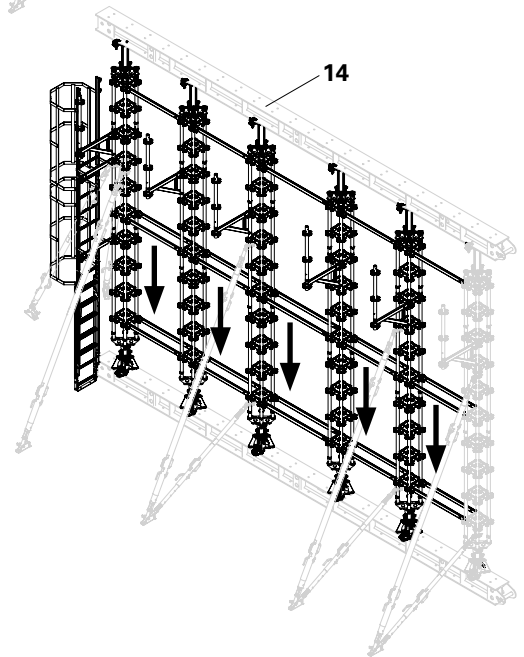

Fig. A7.01b
- Lower the Heavy-Duty Prop HD, then fix the wedges of all Connecting Ledgers UH Plus that were released in the previous step. (Fig. A7.01b)
2. Retract the Push-Pull Props (5) in parallel.